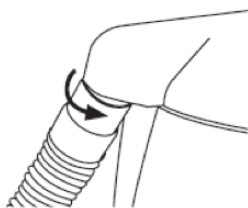

Fig. 1
1. To connect the Flexible Hose (6) into the Hose Inlet (15), insert the threaded end of the Flexible Hose into the Hose Inlet and turn right until it locks into place (Fig. 1). To remove the Flexible Hose, unplug the Power Cord (9) and then turn the hose left.
2. To remove the Telescopic Tube (7) from the Flexible Hose, hold the Flexible Hose handle and pull the Telescopic Tube to separate.
4. Step on the Floor-to-Carpet Selector (21) to adjust the height of the brushes. There are two different heights, one for floors and one for carpets.
5. To remove the Telescopic Tube from the Floor Head (22), simply pull the Telescopic Tube out from the Floor Head.